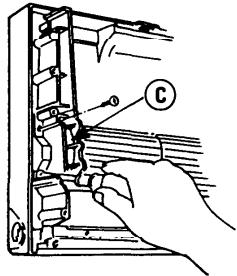

Fig. D-6
- 1) As shown in Figs. D-6 and D-7, loosen the screws of the plastic mounting plates **(C)** and **(D)** which secure the fan, using a Phillips screwdriver, then remove the fan and fan motor.